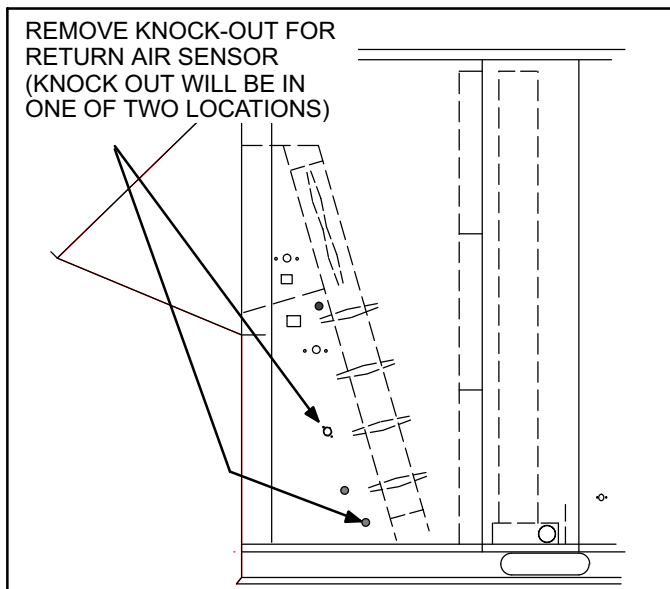

Figure 7. Unit Filter Section
1. Open unit filter section and remove knock-out labeled "A2". See figure 7.